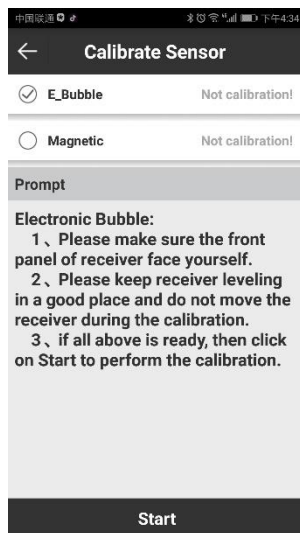

Figure 4.9-1
(1) Press [Calibrate Sensor] to enter into E-Bubble calibration interface as shown in Figure 4.9-1. And select E-bubble.